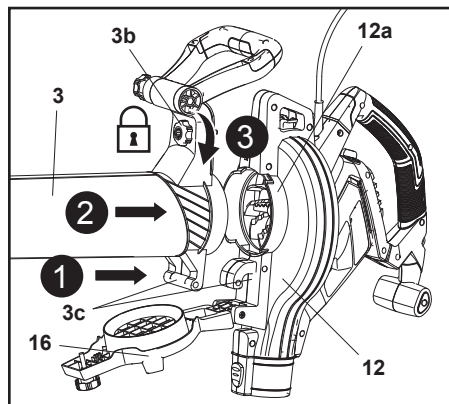

Fig. 5
6. Hook the hanging loop (3c) to the main unit (12), then insert the vacuum tube assembly to the vacuum port (12a) of the main unit (12) all the way to the stop (Fig. 5, steps 1, 2).
7. Tighten the locking knob (3b) clockwise to secure the vacuum tube assembly in place (Fig. 5, step 3). You can hear a click once the locking knob (3b) is positioned properly and the built-in switch will be activated.